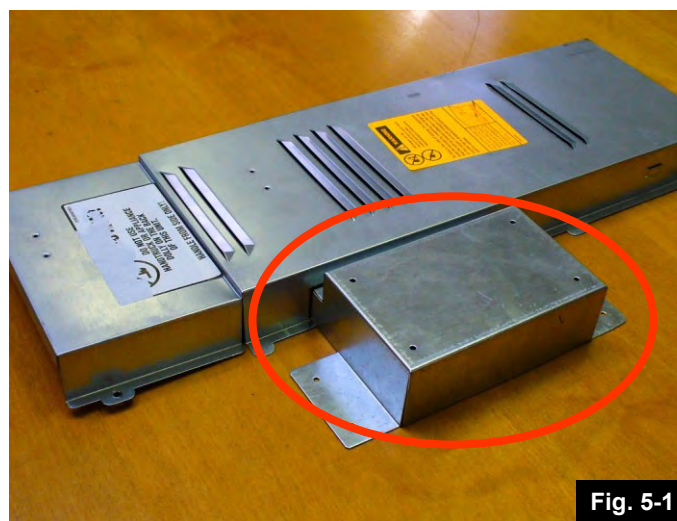

Fig. 5-1
2. After removing rear lower cover place it on a flat surface and place the adapter against the edge at the desired location. (Fig.5-1)